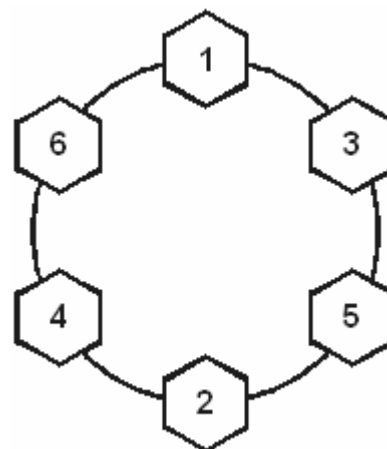

Figure 4-4. Wheel Nut Tightening Sequence
- For correct wheel nut tightening sequence, refer to Figure 4-4.